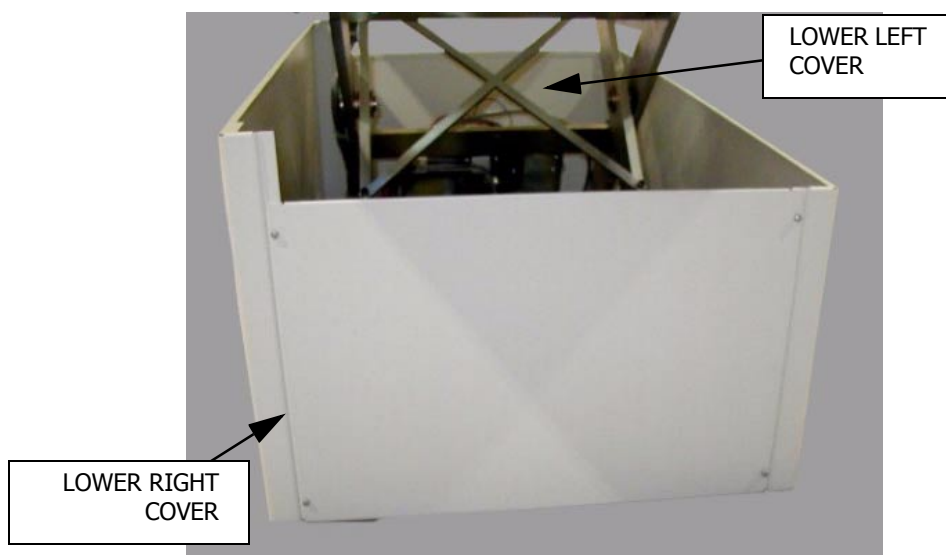

Figure 12. Table Lower Left and Right Covers Installed
4. Attach two (2) Lower Side Covers to Lower Front and Lower Rear Covers using four (4) 6-32 x 3/8" screws with external tooth star washers in each Lower Side Cover (see Figure 12).